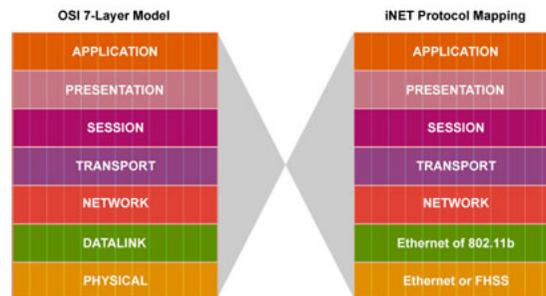

Figure 3. 7-Layer OSI Stack
2. **Protocols:** It is possible to mix polling systems with ‘report by exception’ systems on the same radio network, at the same time, without causing data collision on the radio channel. This is possible because IP networks can utilize a variety of protocols, such as TCP (transmission control protocol), that guarantee delivery of the data packets and correct any errors that may occur during transmission. See fig. 3.